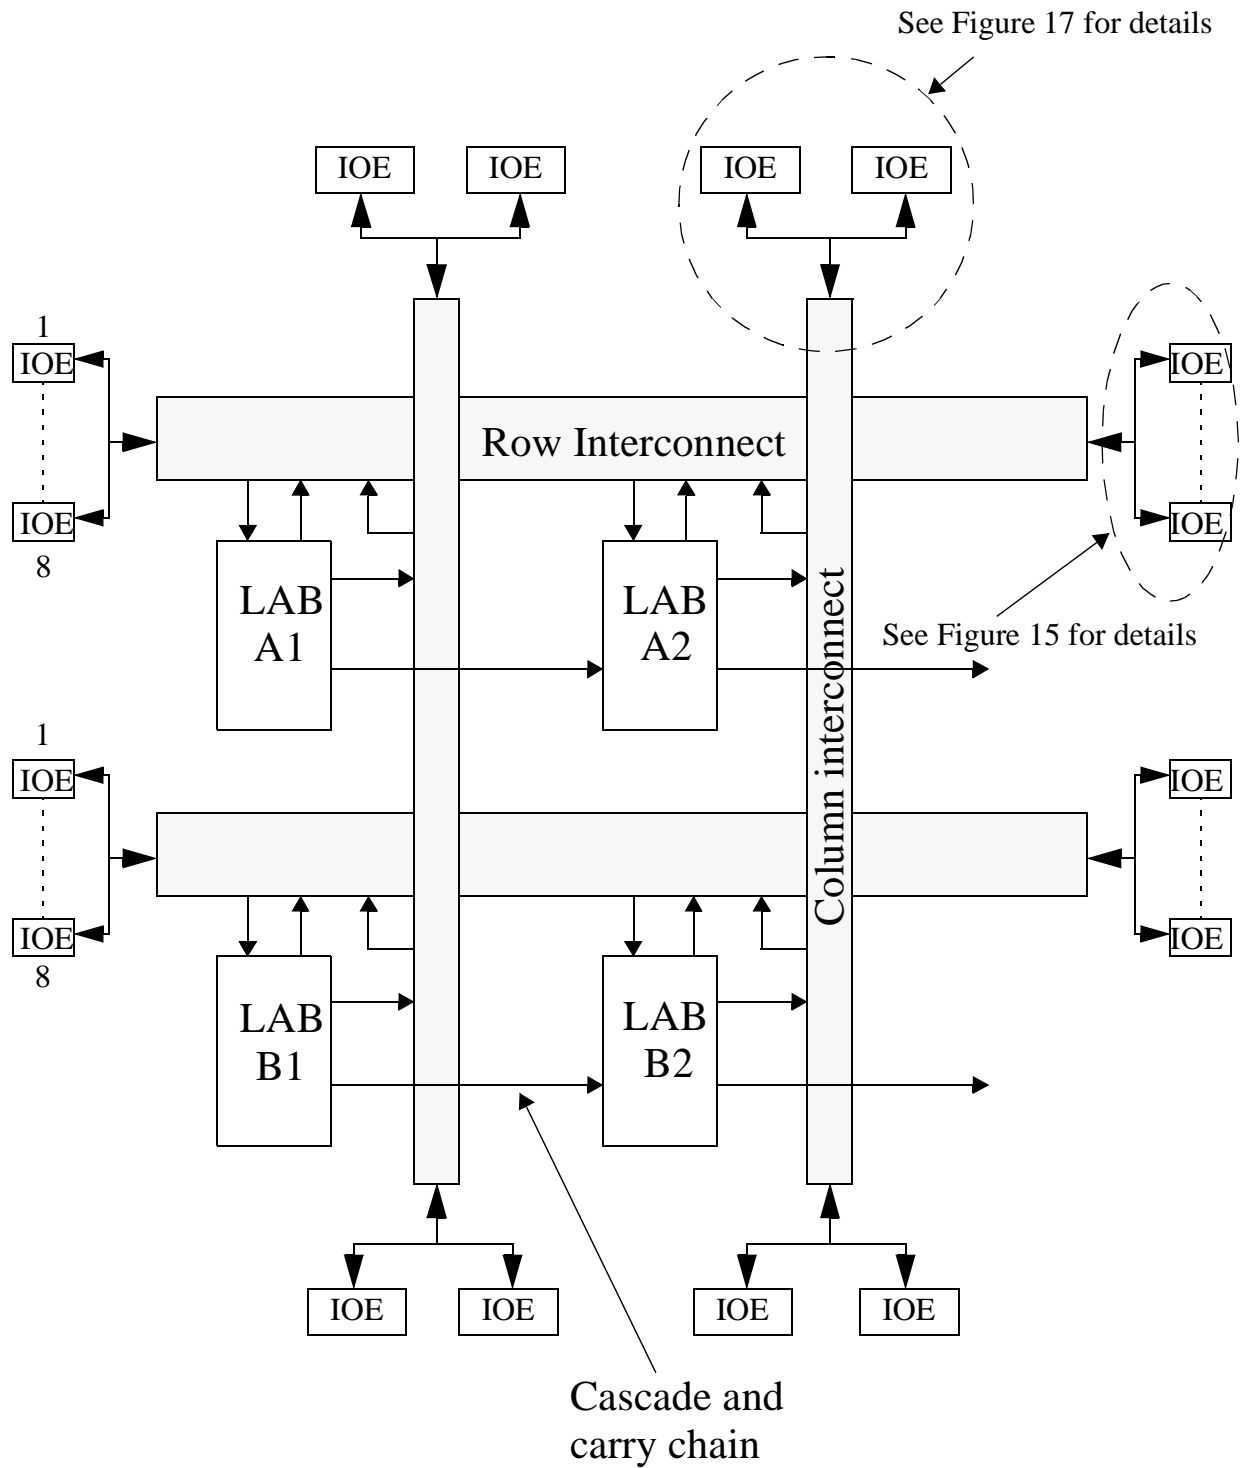

Figure 14 : Flex 8000 device interconnect resources
- Figure 14 shows the interconnect resources for the Flex 8000. Note that inputs into the LAB have to come via a row. Also the column resources are very scarce, and their use is closely supervised by the compiler.